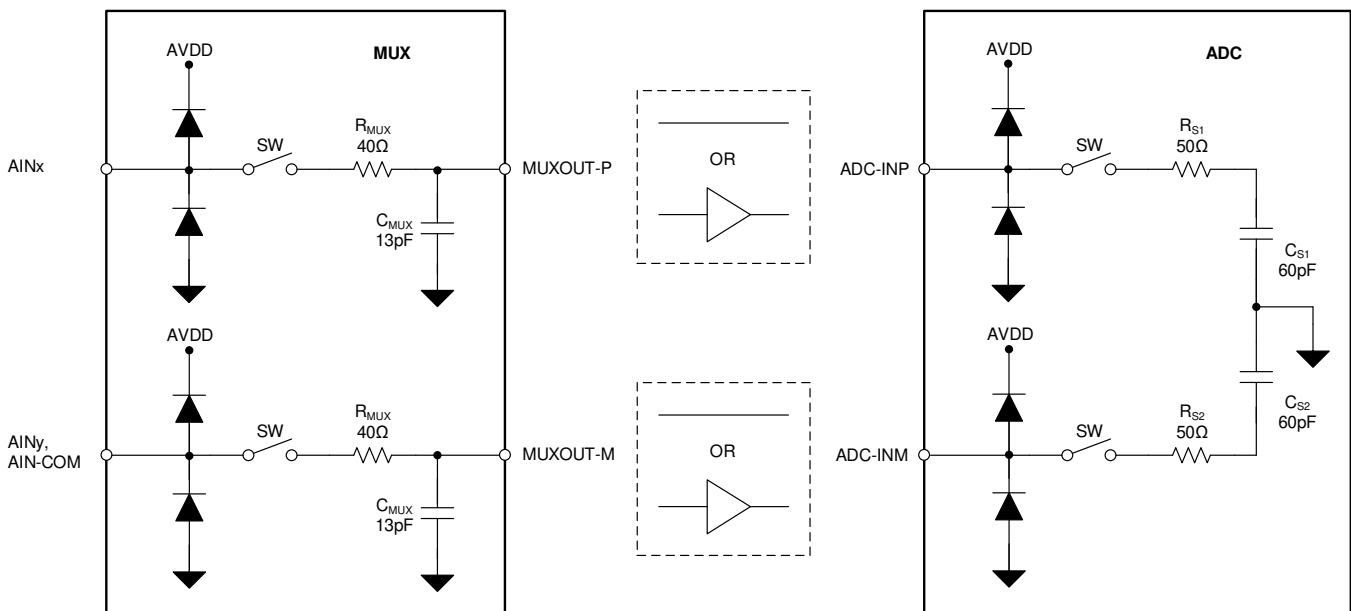

图 30. Input Sampling Stage Equivalent Circuit
图 30 shows the small-signal equivalent circuit of the sample-and-hold circuit. Each sampling switch is represented by resistance (R_{S1} and R_{S2} , typically $50\ \Omega$) in series with an ideal switch (SW). The sampling capacitors, C_{S1} and C_{S2} , are typically $60\ \text{pF}$.